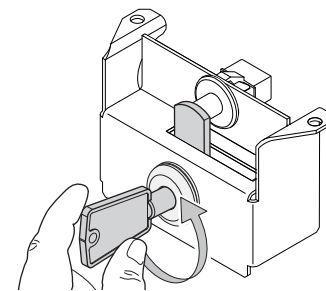

Figure 7. Lock Functioning Properly
7. To ensure offset cam/ lock is properly positioned, insert the key into the tumbler and test the action by turning the key (See Figure 7):